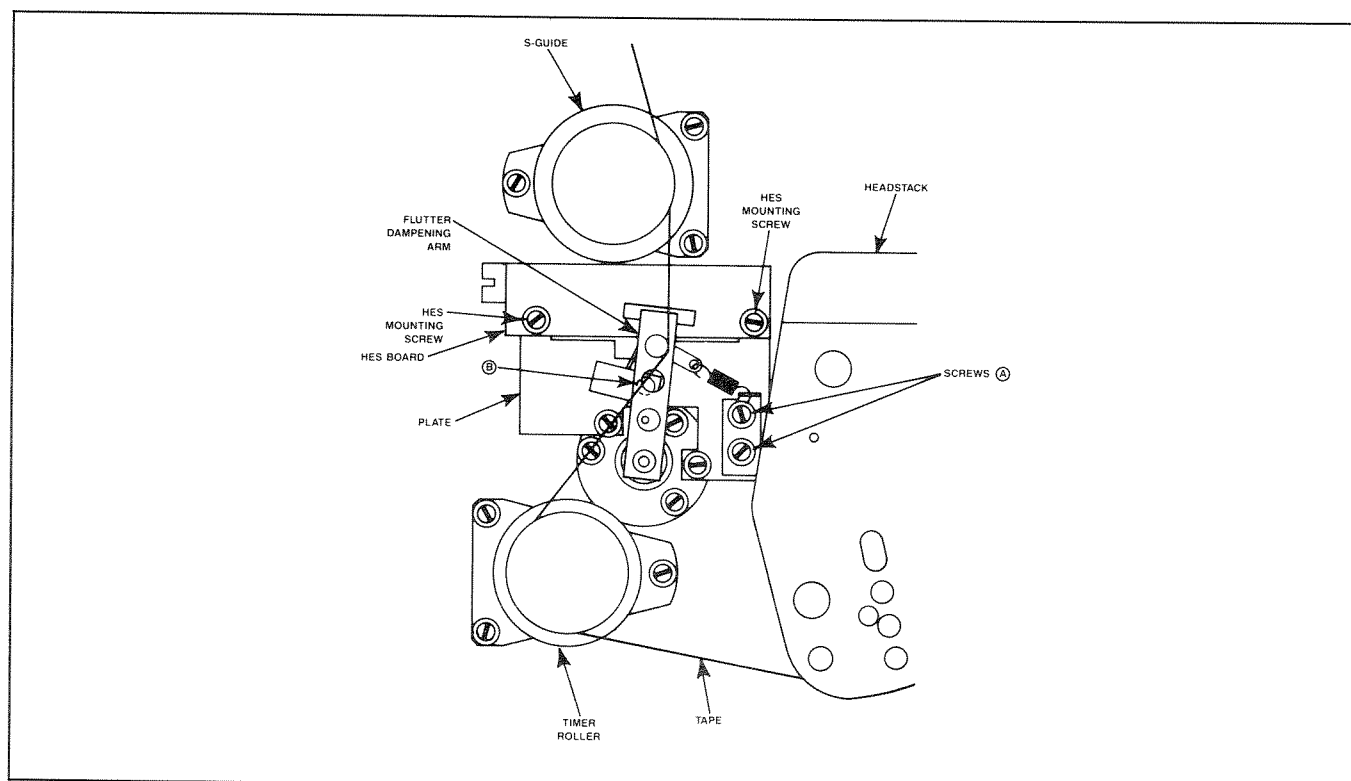
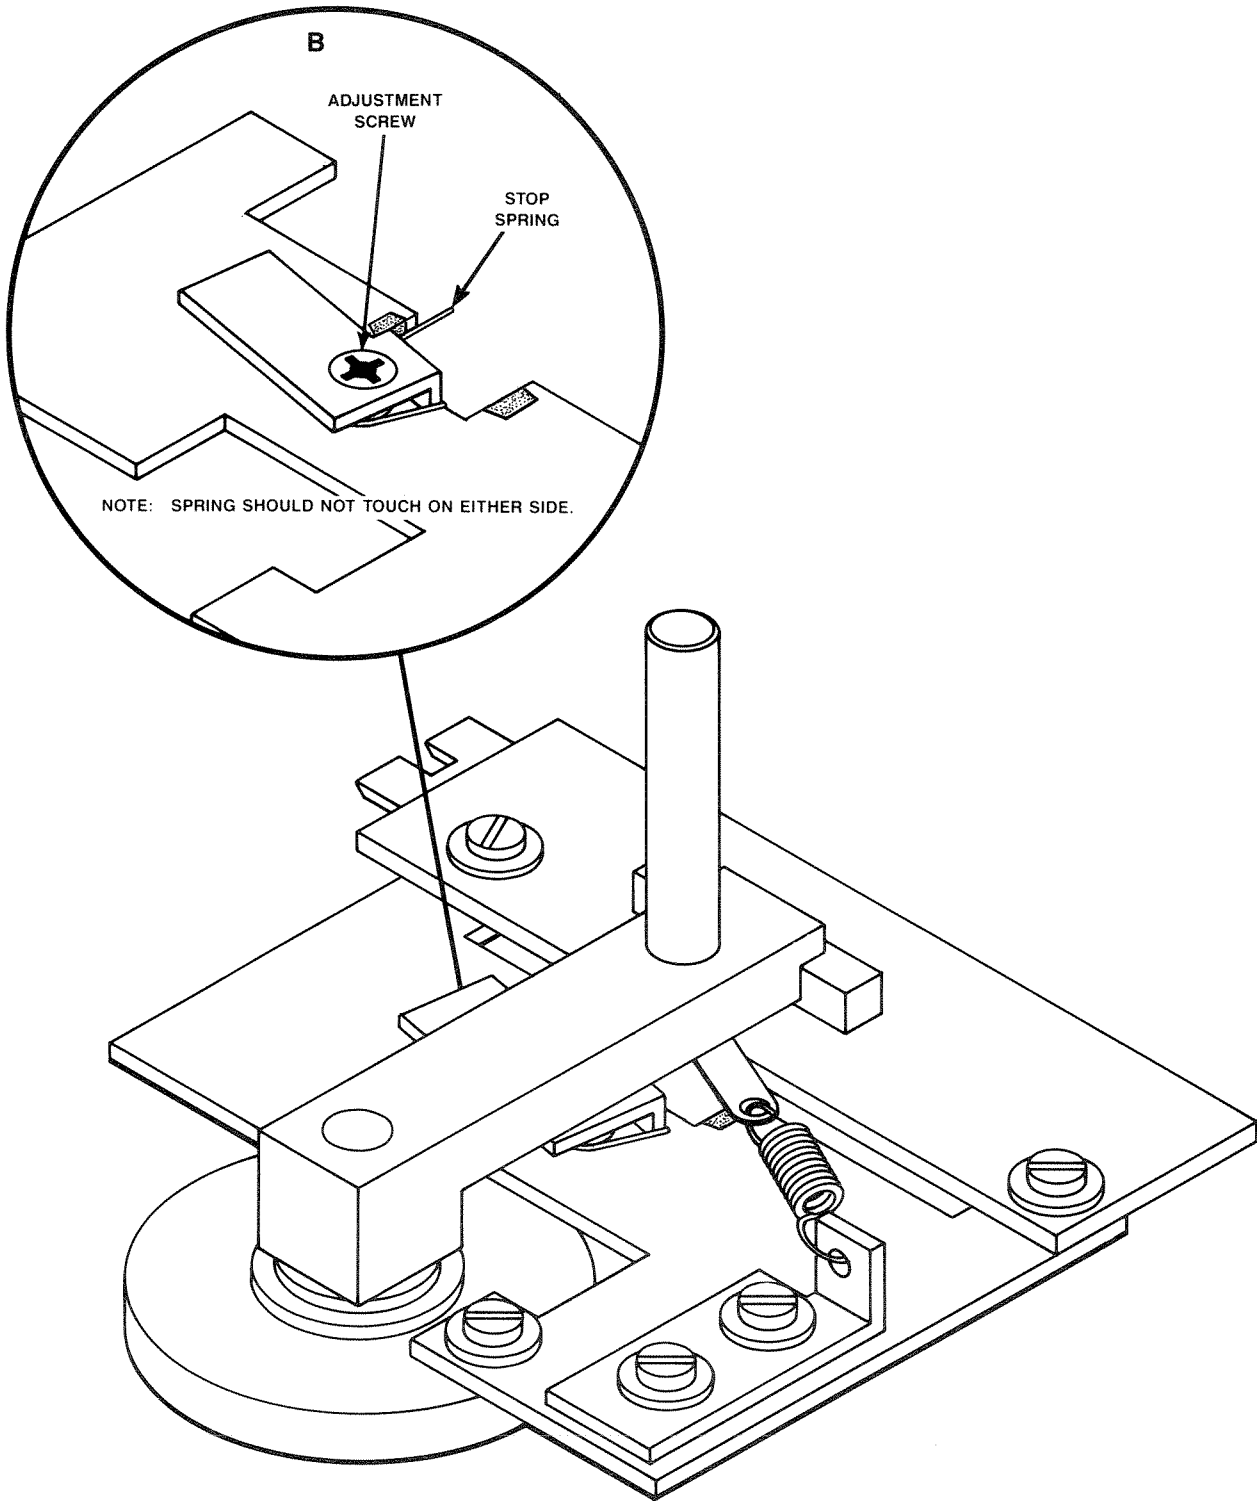

Figure 6-22. Flutter Dampening Arm Adjustment
Figure 6-23. Spring Stop
STEP 11 Loosen the screws labelled (A) and (B) in Figure 6-22.
STEP 12 Press **PLAY**. Adjust the spring assembly by plate (secured by screws (A)) so that the flutter dampening arm assembly is parallel with the edge of the HES assembly and there is an equal distance between the assembly and either of the stops. Tighten screws (A).
STEP 13 Adjust screw (B) to make sure that the bottom of the flutter dampening arm assembly has clearance from the spring (see Figure 6-23).